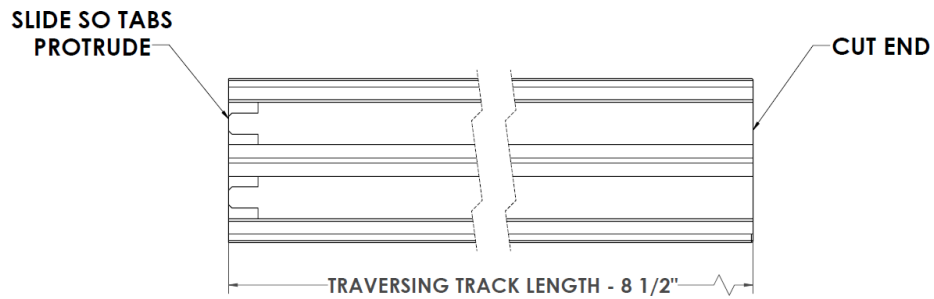

Figure 55: **Cut TransStrip the Length of the Traversing Track Minus 8 1/2" on Side Opposite the Tabs**
- b. Measure from the flush end of the male terminal tabs the length of the traversing track minus 8 1/2" (Figure 55).